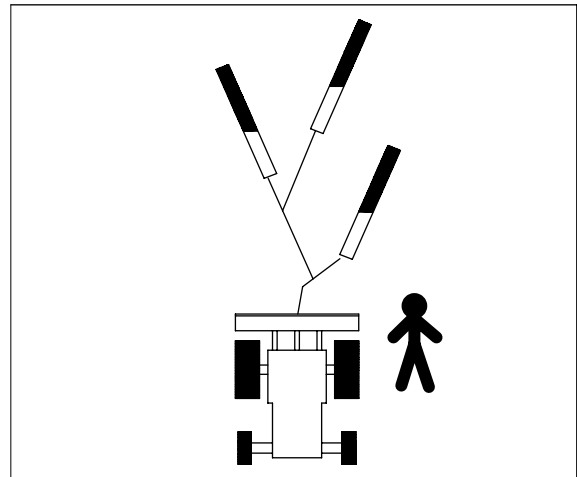

Fig. 5.
- Always position the tractor on a flat ground in line with the direction of the pull (see fig. 5). Avoid working in steep terrain. Ensure nothing is blocking the path of trees.